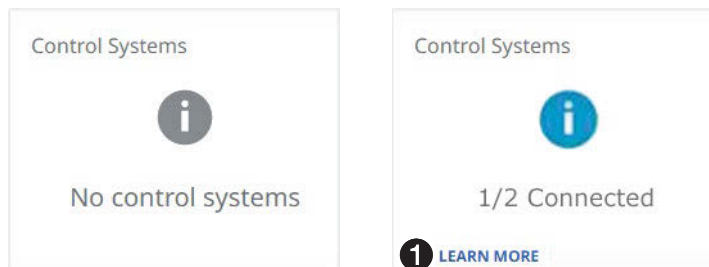

Figure 97. Control Systems Pane
Figure 97 shows the indication if no control system is paired (on the left) and if none is connected (on the right). Click **Learn More** (1) to see detailed connection and pairing information (see figure 98).